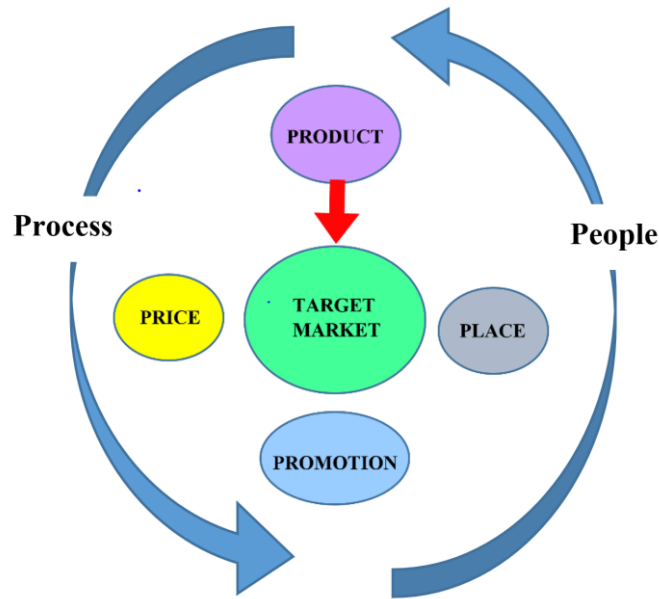

Figure 10-2: The marketing mix with the four Ps (Product, Price, Place and Promotion) and the interactive roles of process and people
When operating a hatchery, you should develop and stick to market strategies that provide maximum benefits or returns to the business. Four (4) key factors (Figure 10-2), also referred to as “the marketing mix,” that can be controlled to satisfy customers in target markets are: